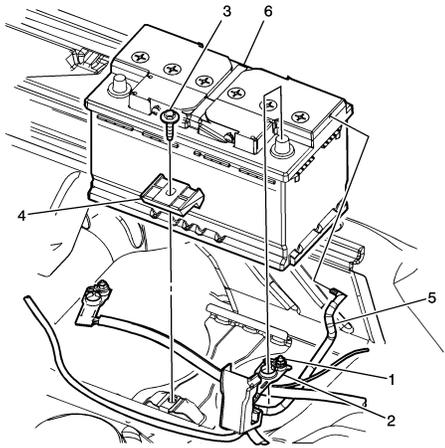

Fig. 3 Battery removal
8. Loosen battery positive cable terminal nut (1), **Fig. 3**.
10. Remove battery hold down retainer bolt (3) and retainer (4), **Fig. 3**.
11. Remove battery vent tube (5) from battery, **Fig. 3**.
1. Install battery (6) to vehicle, **Fig. 3**.
2. Install battery hold down retainer (4) and bolt (3), **Fig. 3**. **Torque** bolt to 13 ft. lbs.
3. Install battery vent tube (5) to battery, **Fig. 3**.
4. Connect battery positive cable (2) to battery, **Fig. 3**. **Torque** battery cable terminal nut to 11 ft. lbs.